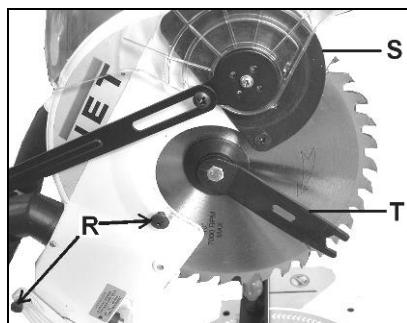

Fig 9
Remove the blade's protective cover by unscrewing the two screws (R, Fig 9) on the side and flip up the protective cover (S).
Reposition the plastic protective cover and tighten the two screws (R, Fig 9).